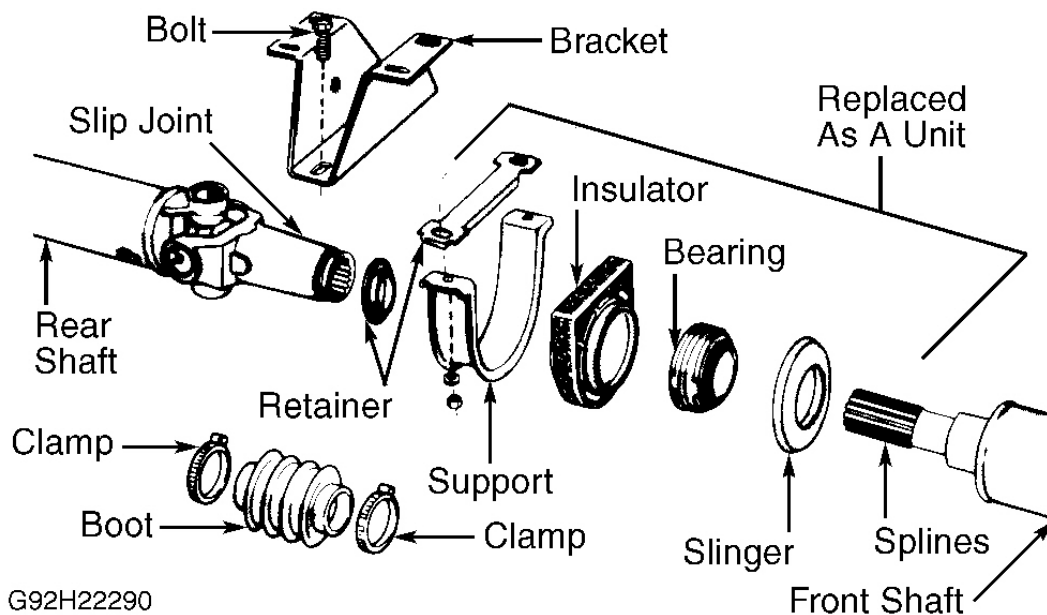

Fig. 10: Identifying Center Bearing Support Assembly Components
2. Slide rear drive shaft slip joint from front drive shaft splines. See **Fig. 10** . Support drive shaft(s) while removing center bearing support bracket mounting bolts. Pull to remove front drive shaft slip joint from transmission extension housing shaft.
2. Remove and retain center bearing support bracket and retainer. (Service replacement assembly may not come with these items.) Remove rubber insulator from bearing housing. See **Fig. 10**.